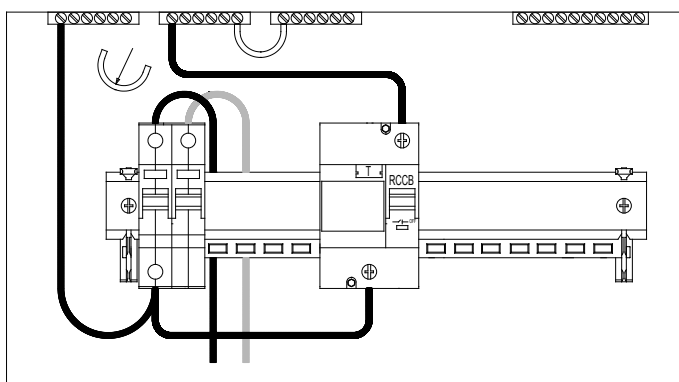

Fig 5.3
- Units with 3 neutral bars. (Fig 5.3)** Remove one of the solid neutral links (according to the required split of the unit) from between the neutral bars.